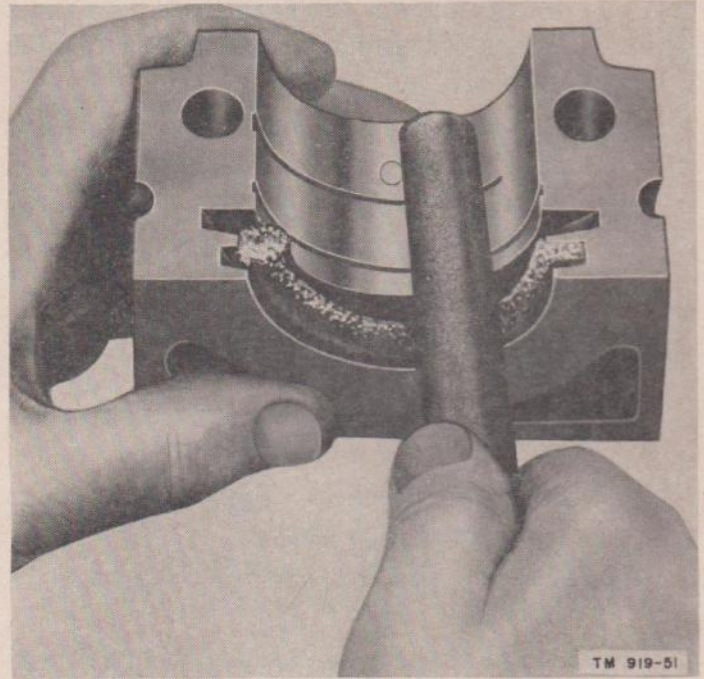
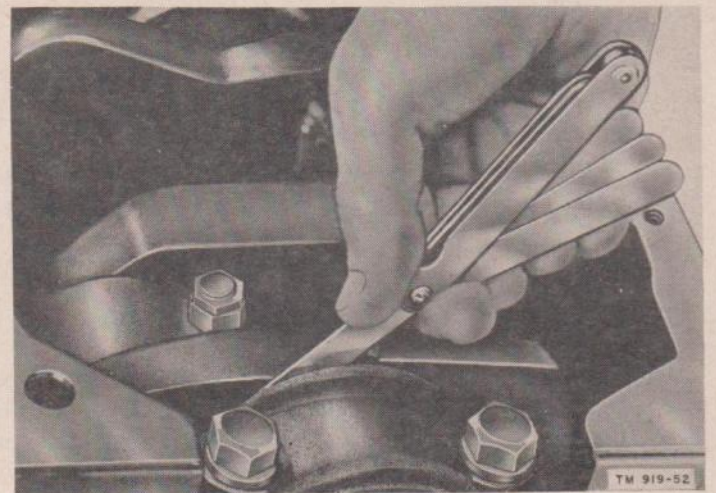

Figure 52. Installing rear main-bearing packing.
Figure 53. Checking crankshaft end play.
- (3) Apply clean oil (OE) to the main-bearing crankshaft journals. Then install the crankshaft in the block.
- (4) Install the lower main bearings (35, 38, 41) on the crankshaft.
- (5) Install new packing in the rear main-bearing cap as follows: Insert the packing in the groove of the cap. Roll the packing into the groove with a round piece of wood or steel (fig. 52). Start at one end and roll the packing to the center of the groove. Then start from the other end and again roll towards the center. Be sure the packing is pressed firmly into the bottom of the groove. The small portion of packing which protrudes above the surface of the cap at each end must be cut off flush.
- (6) Check the clearance between the bearing and crankshaft journal as follows: Place a .002-inch shim between the journal and the bearing. Tighten the cap screws to the recommended torque of 65 to 70 pounds. A slight drag of the shaft, when turned by hand, proves the clearance (.002 in. to .0025 in.) is correct. Be sure to remove the shim.
- (7) Reinstall the bearings and caps. Place liquid gasket sealer on the sides and face of the rear main-bearing cap.
- (8) Check the end play of the crankshaft with a feeler gage (fig. 53). Clearance should be between .004 inch and .006 inch. To adjust the end play, remove the crankshaft gear and thrust washer and insert shims as required between the thrust washer and the face of the front main bearing.